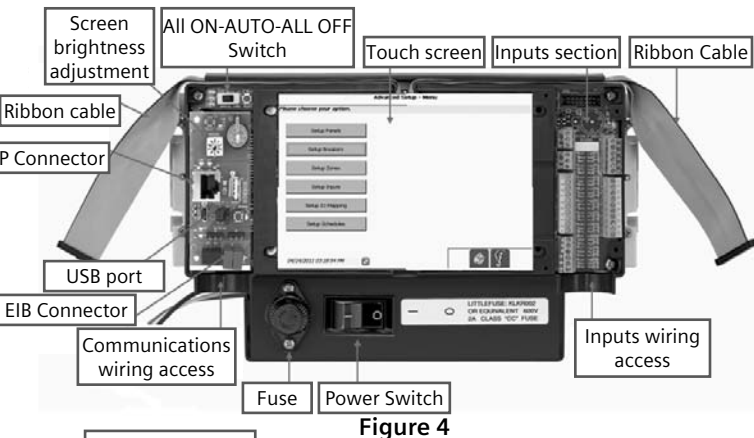
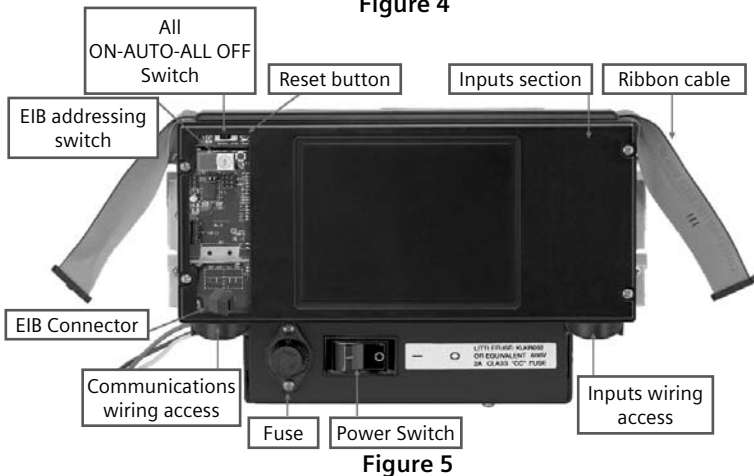

Figure 4
Figure 5
- b. The i-3 System Controller Offline Configuration and USB storage device (Figure 4).
- V. The ALL ON-AUTO-ALL OFF switch (Figure 4) must be in the 'Auto' (middle) position. VI. Insert the USB storage device into the system controller USB port (Figure 4).
use the EIB (red - black) connector, which is supplied (Figures 5 & 6). The wire should be twisted pair, 18 AWG, solid copper. Recommended wire is Belden 6320. Be sure to follow polarity to ensure proper operation.
2. Place the ALL ON-AUTO-ALL OFF switch (Figure 4) on the system controller and networked I/O controller(s) in the middle 'Auto' position (Figures 5 & 6).
Caution: If the System Controller does not power ON after the panel has been energized, follow the safety procedures to de-energize the panel and remove the trim and the dead front to verify that the power switch (Figure 4) on the system controller is in the ON position. If the switch is ON, but the controller remains OFF; check the fuse for integrity and for correct installation. It should be inserted with the narrow tip towards the controller. You must install the dead front and trim before energizing.
- VII. Set the EIB addressing switch to the desired address (Figure 5) on the I/O controller that belongs to Panel B. The red light next to the EIB Programming button will light when the button has been successfully enabled. If the red EIB LED lamp does not light, check the voltage on the network line. The voltage should be 29 VDC.
Caution: Once a panel has been programmed it may remain energized. The slave panel controllers MUST be powered OFF using the power switch in the controller (You may have to remove the dead front to access the power switch). Be sure the manual override (All ON-AUTO-All OFF Switch – Figure 4) is in the 'Auto' (middle) position for all panels.*
- VI. Insert your USB storage device into the system controller (Figure 4).
- XVI.** Power ON the slave panel that is to be programmed. Be sure the manual override switch is in the 'Auto' (middle) position. Set the EIB address that corresponds to Panel B with the EIB addressing switch (Figure 4) on the I/O controller (or the name you gave to your second panel using the i-3 System Controller Offline Configuration). The red light next to the EIB Programming button will light and remain lit when it has been successfully enabled.